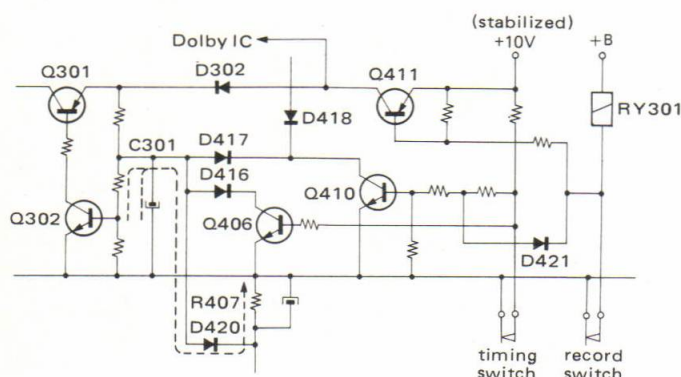

Fig. 4
– Bias Oscillator Drive Circuit (See Fig. 4) –